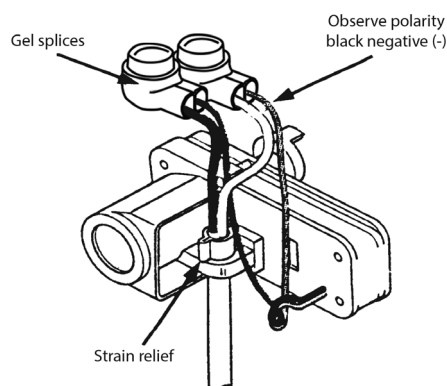

Figure 6: Gas-RT wiring
5. Connect the Gas-RT conductors to the remote cable conductors using the installation displacement gel-filled splices (59761-001) provided in the installation kit. Crimp the splices carefully and completely using a parallel jaw crimper, such as the Badger Meter crimper (59983-001). Polarity must be observed when connecting the Gas-RT to the remote. The black conductor of the Gas-RT is to be terminated to the negative (-) conductor. See Figure 6.